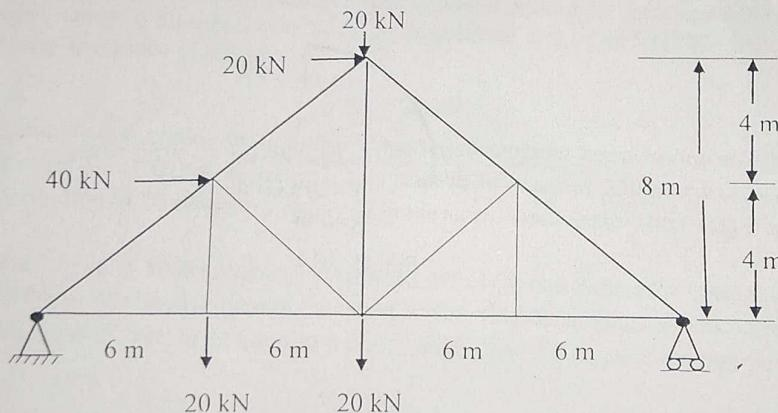

Fig. Q. 2
2. A plane steel truss as shown in figure Q. 2. Cross sectional area of each member is $600 \times 10^{-6} \text{ m}^2$ and $E=201 \text{ GPa}$.